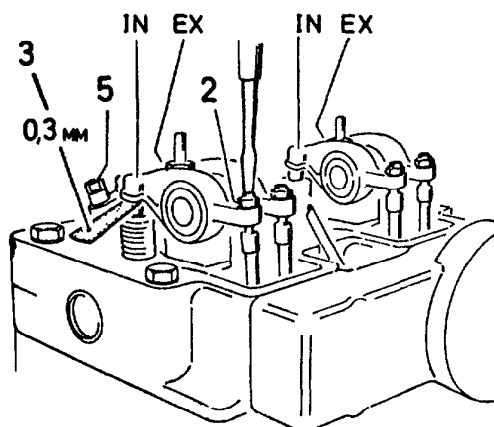

Fig 64. 2J—Viewed from rear.
*Type 2J*, fig 64. Disconnect leak-off pipe, injector pipe and injector clamps. Withdraw injectors slightly and let them lie forwards in their sockets.